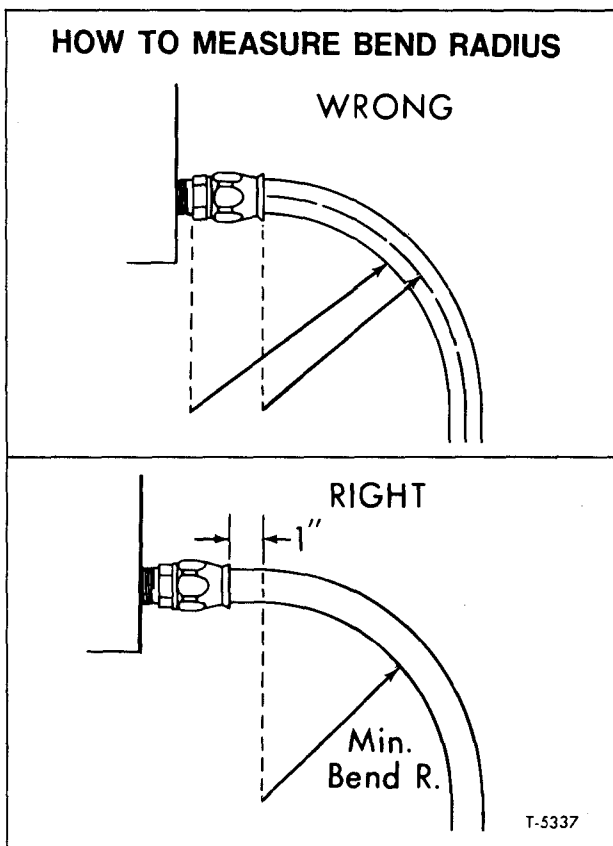

Figure 8—Installation of Teflon Hose to Insure Proper Bend Radius
5. Do not exceed minimum bend radius during handling, storage, or installation. If the bend radius is exceeded, the hose will tend to flatten and kink. Having an adequate bend radius will help prevent collapsing of the line or restriction of flow as shown in figure 8.
6. When installing, the assembly should be positioned so that the flexible portion of the hose extends at least one and one-half times the hose diameter before the bend of the hose as shown in figure 8.